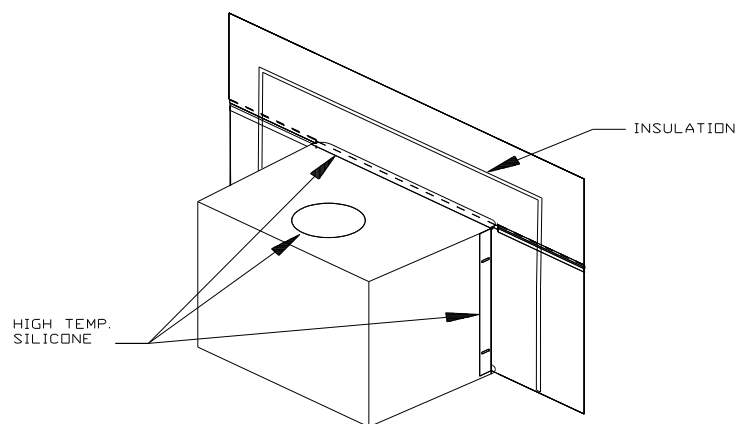

FIGURE 4
10. Using insulation provided, peel and stick to back of panels overlapping fireplace dimensions by 1" on each side and top. (See Figure 4.)
11. Next using high heat silicone or furnace cement run heavy bead of caulking around where panels meet the stove. (See Figure 4.)